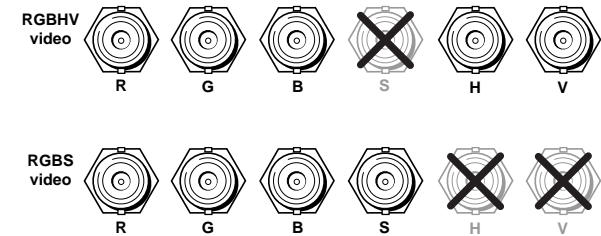

Figure 5 — Output connections
- Output connectors** — Connect an RGBHV or RGBS display to these female BNC connectors. Use high-resolution cable, such as Extron's BNC-4 or BNC-5 mini HR, RG59/HR, or RG6/SHR cable. Connect the display as shown in figure 5.